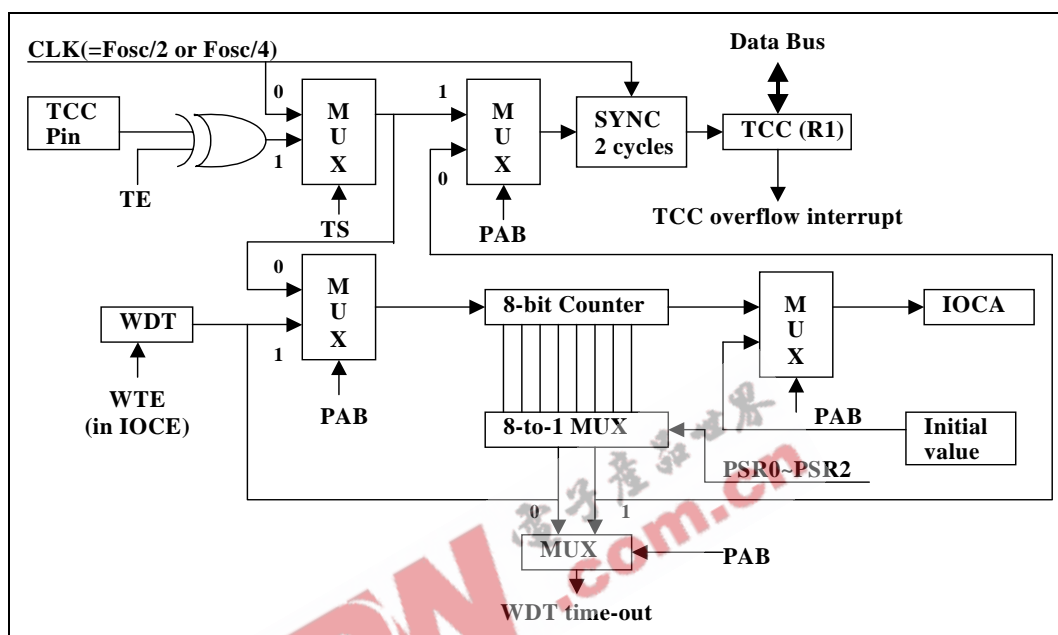

Fig. 4-3 TCC and WDT Block Diagram
An 8-bit counter available as prescaler for the TCC or WDT. The prescaler is available for either the TCC or WDT only at any given time, and the PAB bit of the CONT register is used to determine the prescaler assignment. The PSR0~PSR2 bits determine the ratio. The prescaler is cleared each time the instruction is written to TCC under TCC mode. The WDT and prescaler, when assigned to WDT mode, are cleared by the "WDTC" or "SLEP" instructions. Fig. 4-3 below, depicts the circuit diagram of TCC/WDT.
- R1 (TCC) is an 8-bit timer/counter. The clock source of TCC can be internal or external clock input (edge selectable from TCC pin). If TCC signal source is from internal clock, TCC will increase by 1 at every instruction cycle (without prescaler). Referring to Fig. 4-3 below, CLK=Fosc/2 or CLK=Fosc/4 application is determined by the CODE Option bit CLK status. CLK=Fosc/2 is used when CLK bit is "0," and CLK=Fosc/4 is used when CLK bit is "1." If TCC signal source comes from external clock input, TCC is increased by 1 at every falling edge or rising edge of TCC pin.